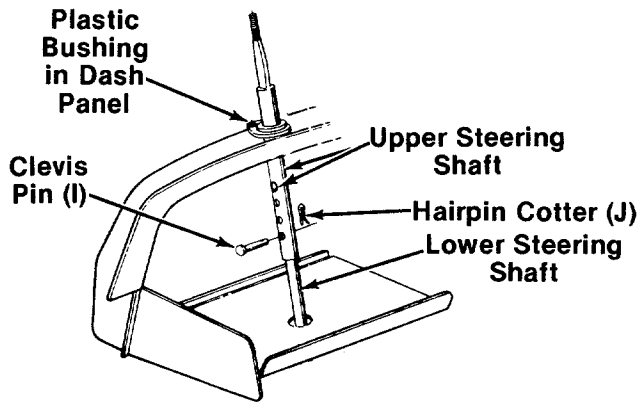

FIGURE 12.—Model 698 Shown
1. For shipping purposes, the upper steering shaft is pushed all the way down over the lower steering shaft. Pull the upper steering shaft up. The four holes in the shaft provide four steering wheel heights. Select desired hole and secure with clevis pin (I) and hairpin cotter (J). See figure 12.